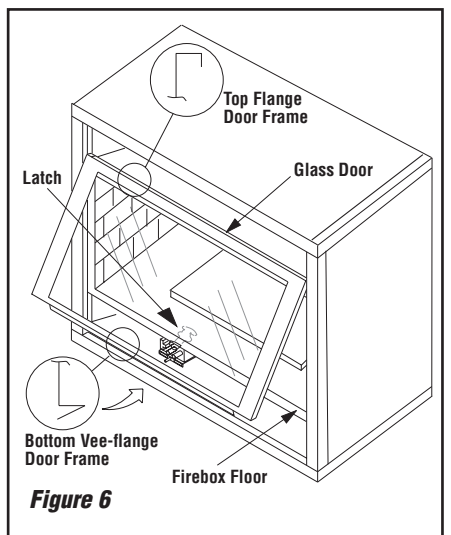

Figure 6
- 1 - Lower the bottom control compartment access panel. Remove the glass enclosure panel: open the latch (located in the center of the unit front opening, under the firebox floor) securing the glass enclosure panel. Remove the panel by tilting it outward at the bottom and lifting it up. Set the door aside protecting it from inadvertent damage. See **Figure 6 on Page 7**.
Refer to Figure 6 and remove the front glass enclosure panel as follows: